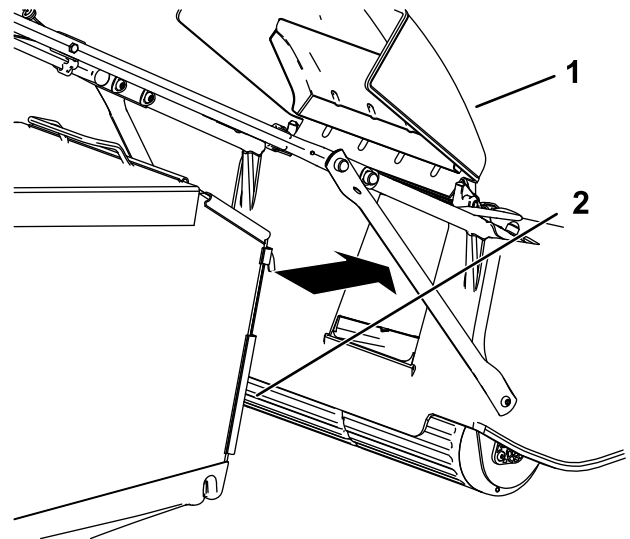

Figure 19
3. Hook the grass bag into position (Figure 19).